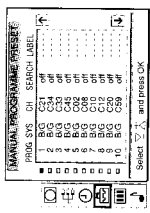

Fig. 7
- 2 Select »Manual Programme Preset« with $\Delta+$ or $\nabla-$ and press OK. The MANUAL PROGRAMME PRESET menu appears. (See Fig. 7.)